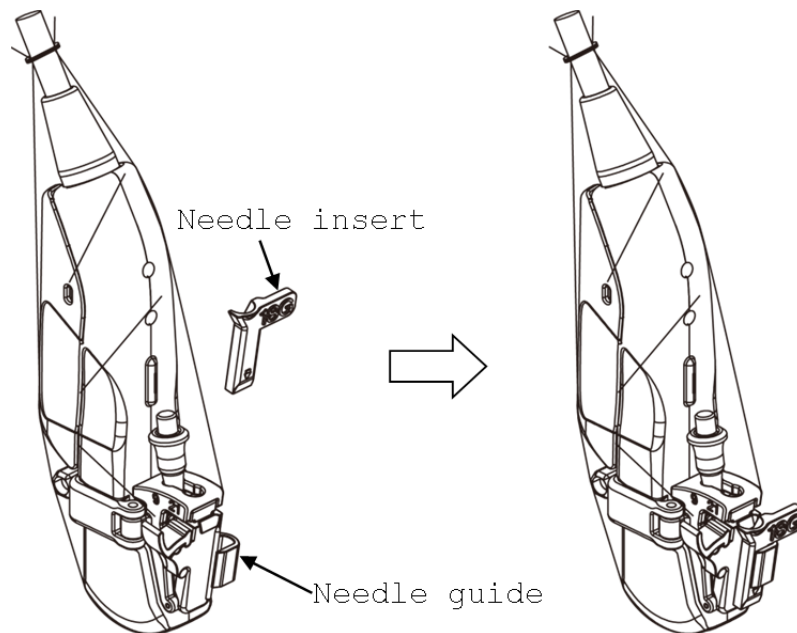

Fig. 11 Attaching the needle insert
- 4) Slide the needle insert into the needle guide by aligning the arrow tips. (See Fig. 11) Inspect the guide and cover assembly to ensure the needle path is clear of obstructions.